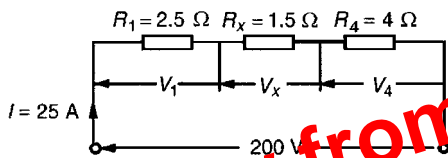

Figure 5.25
- (c) The equivalent circuit of Fig. 5.24 is shown in Fig. 5.25